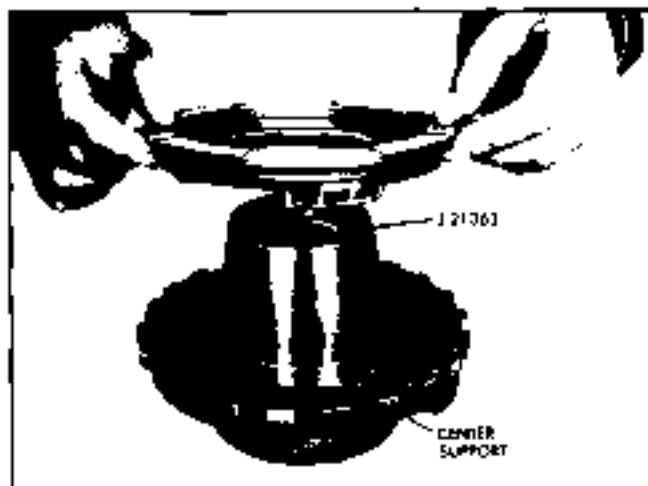

Fig. 7E-115 Installing Intermediate Clutch Piston
7. Air check operation of intermediate clutch piston (Fig. 7E-116).